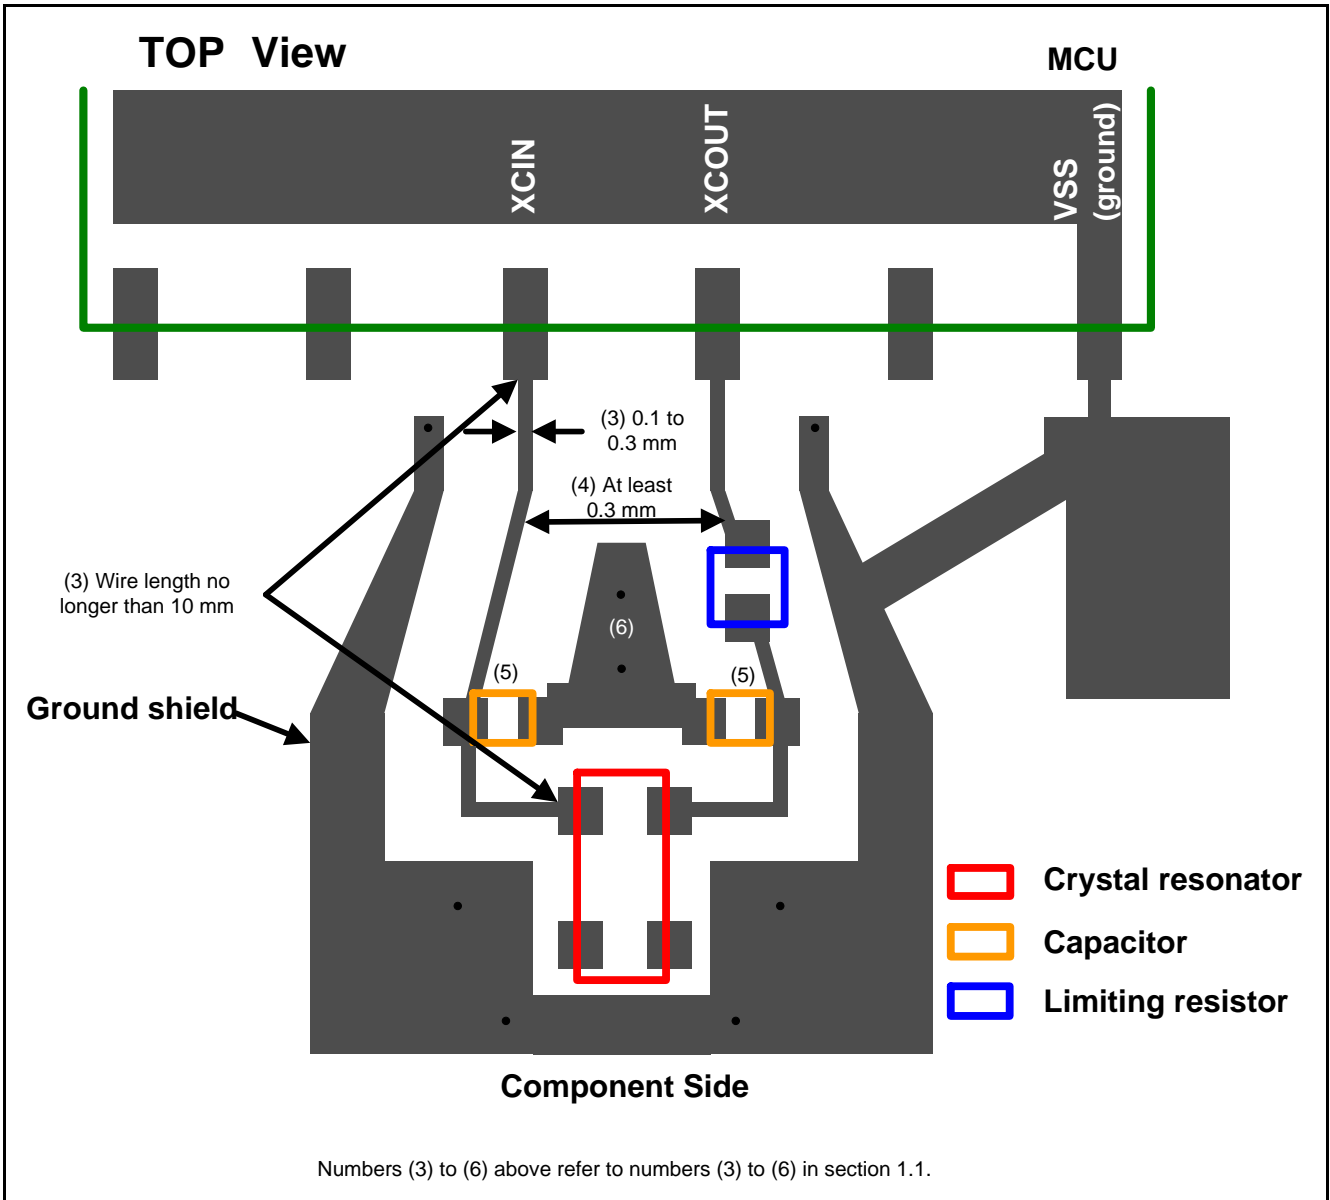
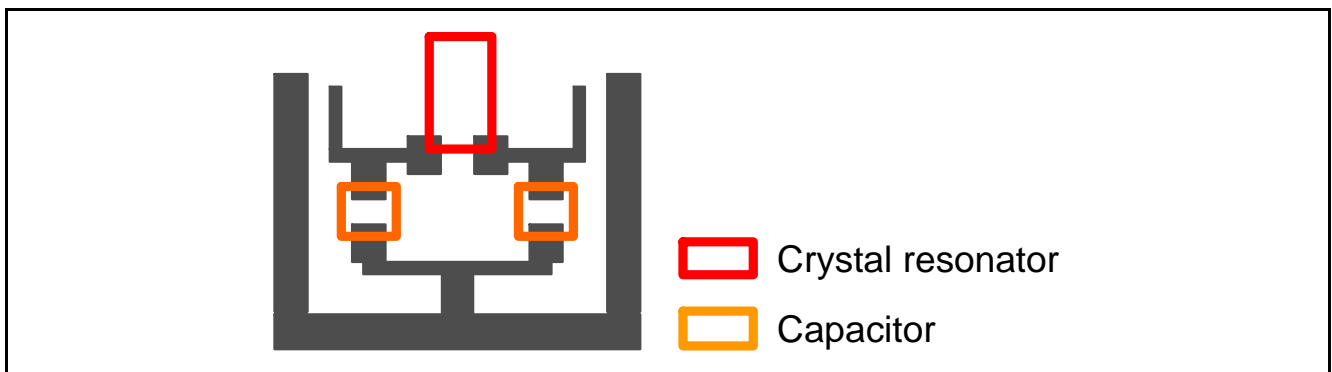

Figure 1.1 Example of Preferred Trace for XCIN and XCOU Wiring in the 100-pin, 144-pin, and 176-pin LQFP Packages
Figure 1.4 Example of Alternate Trace for XCIN and XCOUW Wiring
(1) to (6) below describe points on wiring for XCIN and XCOU^T. Figures 1.1 through 1.3 show examples of traces for each package.
- (1) Do not cross the XCIN and XCOU^T wires with other signal wires.
- (2) Do not add an observation pin to XCIN and XCOU^T.
- (3) Make the XCIN and XCOU^T wire width between 0.1 and 0.3 mm. The wire length from the MCU pins to the crystal resonator pins should be less than 10 mm, or at least as close to 10 mm if longer.
- (4) The wire connected to the XCIN pin and the wire connected to the XCOU^T pin should have as much space between them (at least 0.3 mm) as possible.
- (5) Connect external capacitors as close together as possible. Connect the wire for the capacitors to the ground trace (hereinafter referred to as ground shield) on the component side. For details on the ground shield, refer to section 1.2. When the capacitors cannot be laid out as shown in Figure 1.1 to 1.3, use the layout shown in Figure 1.4.
- (6) In order to decrease the parasitic capacitance between XCIN and XCOU^T, include a ground trace between the resonator and the MCU.